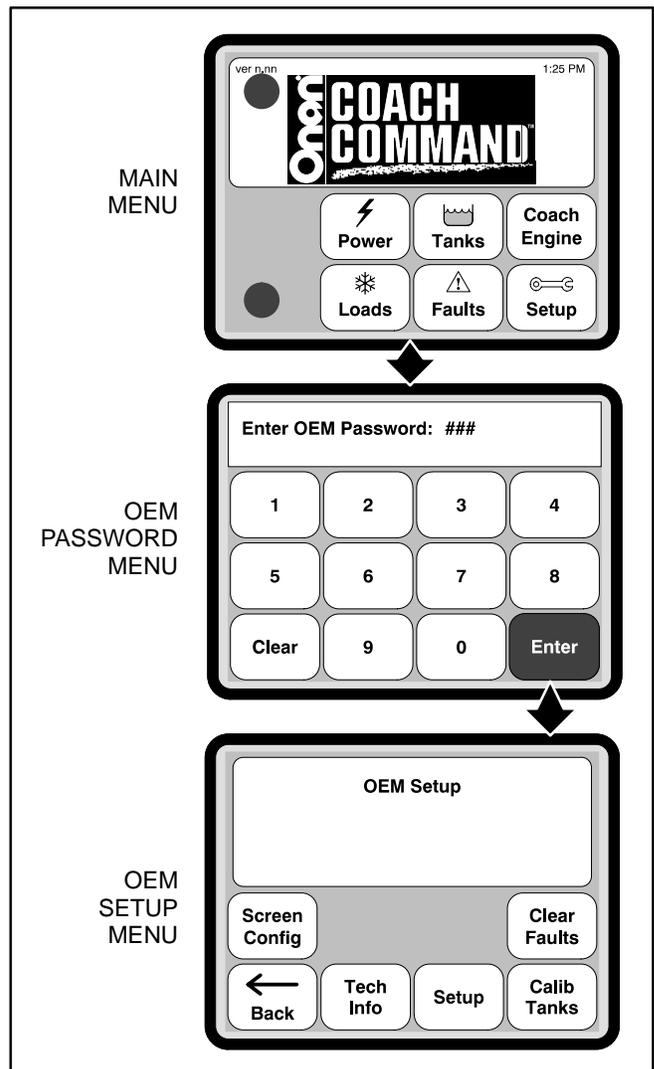

FIGURE 11-2. ACCESSING THE OEM SETUP MENU
1. From the Main menu, simultaneously press the upper left and lower left corners of the screen (see Figure 11-2) until the OEM Password menu is displayed.
2. Use the numeric buttons to enter the OEM password (574).